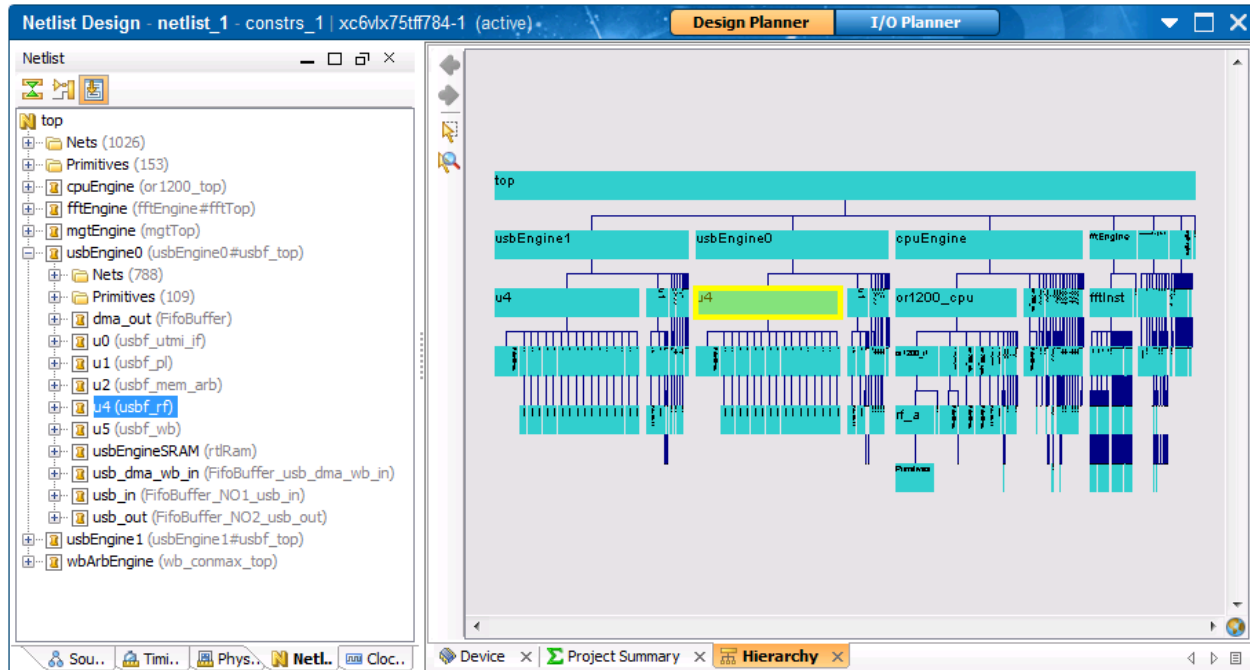

Figure 9: Displaying the Instance Hierarchy View
- 2-2-4. The Hierarchy view opens in the Workspace (Figure 9).